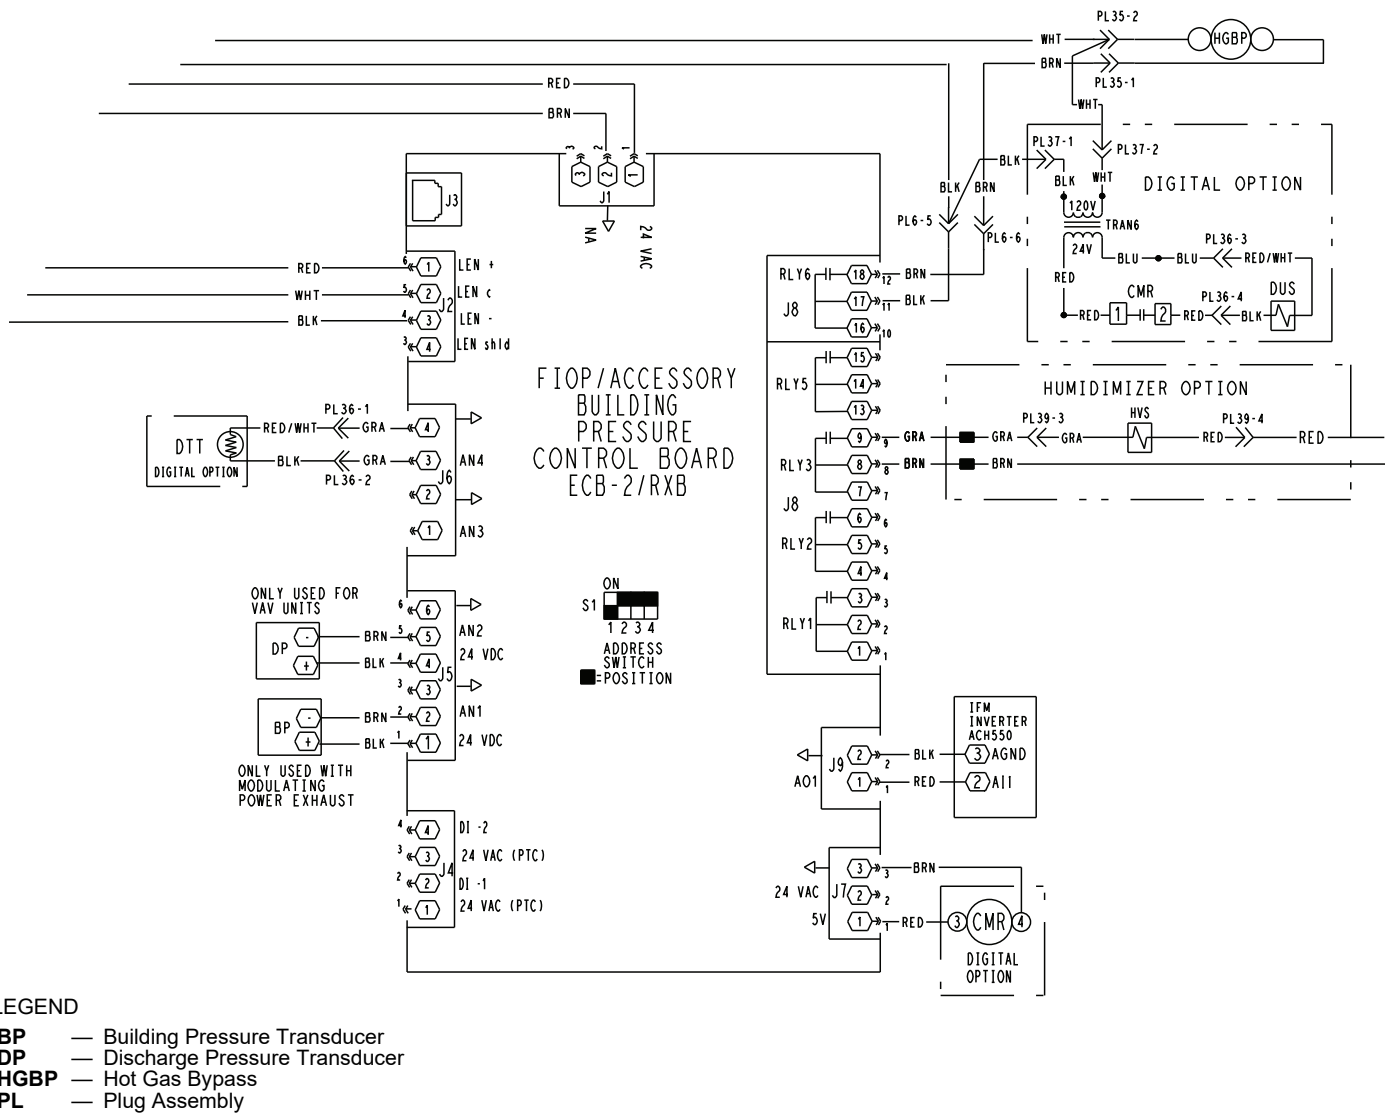

Fig. 17 — Auxiliary Control Box ECB-2 Wiring for 48/50A
4. Locate the factory-installed wire harness for ECB-2 in the control box and make the connections for J1, J2, and J5. See Fig. 17 for auxiliary control box wiring.
4. Locate the factory-installed wire harness for BP in the control box and make the “+” and “-” connections. See Fig. 17 for wiring configuration.